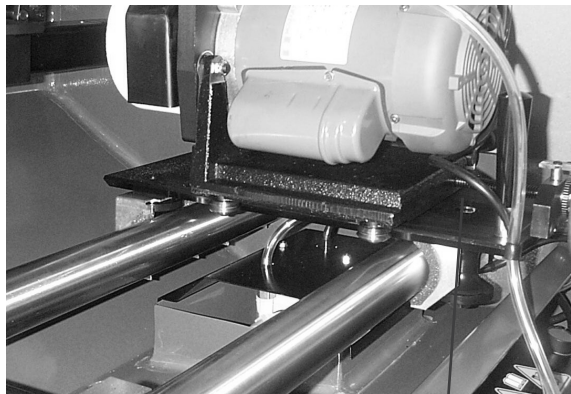

FIG. 10
2. Replace the four foam rail wipers (FIG. 10) every 6 months of operation.